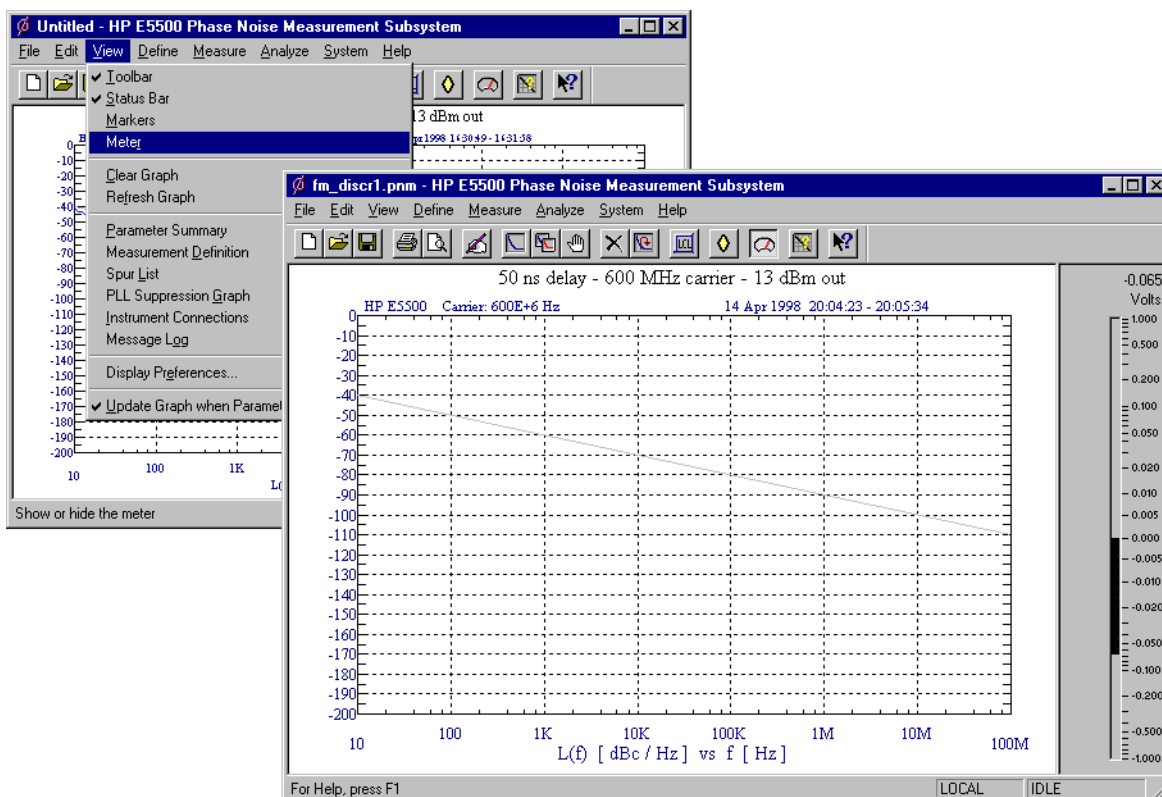

Figure 11-8 Select Meter from View Menu
- 1 From the **View** menu, choose **Meter** to select the quadrature meter. See Figure 11-8.